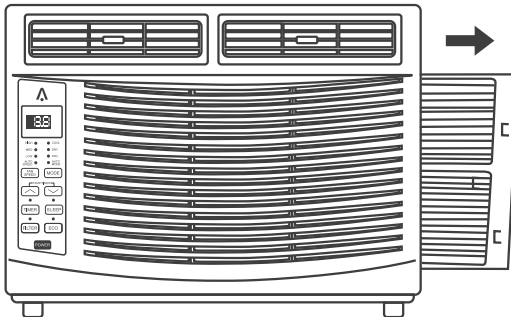

Fig.15
- Remove the filter by sliding it out from the front right side of the air conditioner. (See Fig.15)